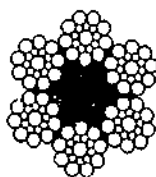

Figure 7-43. Fibre Core
**Fibre Core** (Figure 7-43) is adequate for many types of service providing maximum flexibility and elasticity to the wire rope. Generally made of hard fibres, usually sisal and occasionally manila, it may also be manufactured from man-